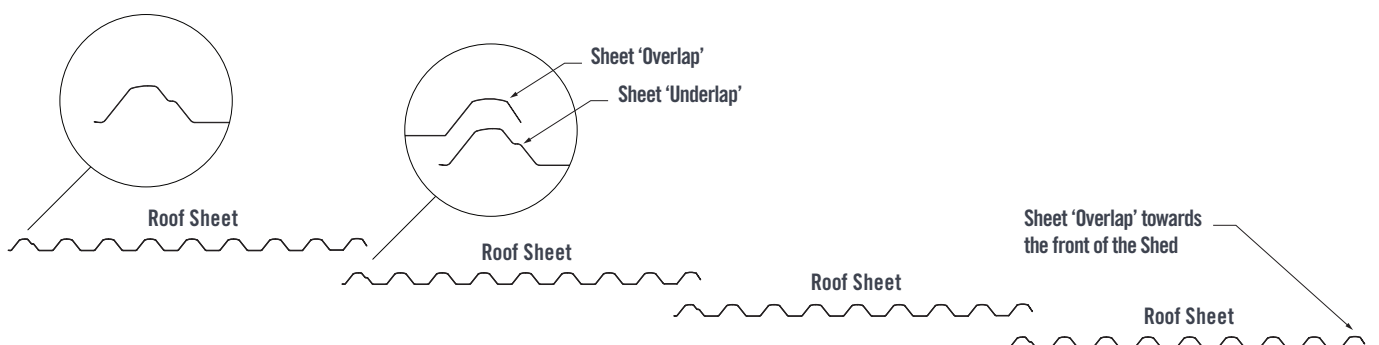
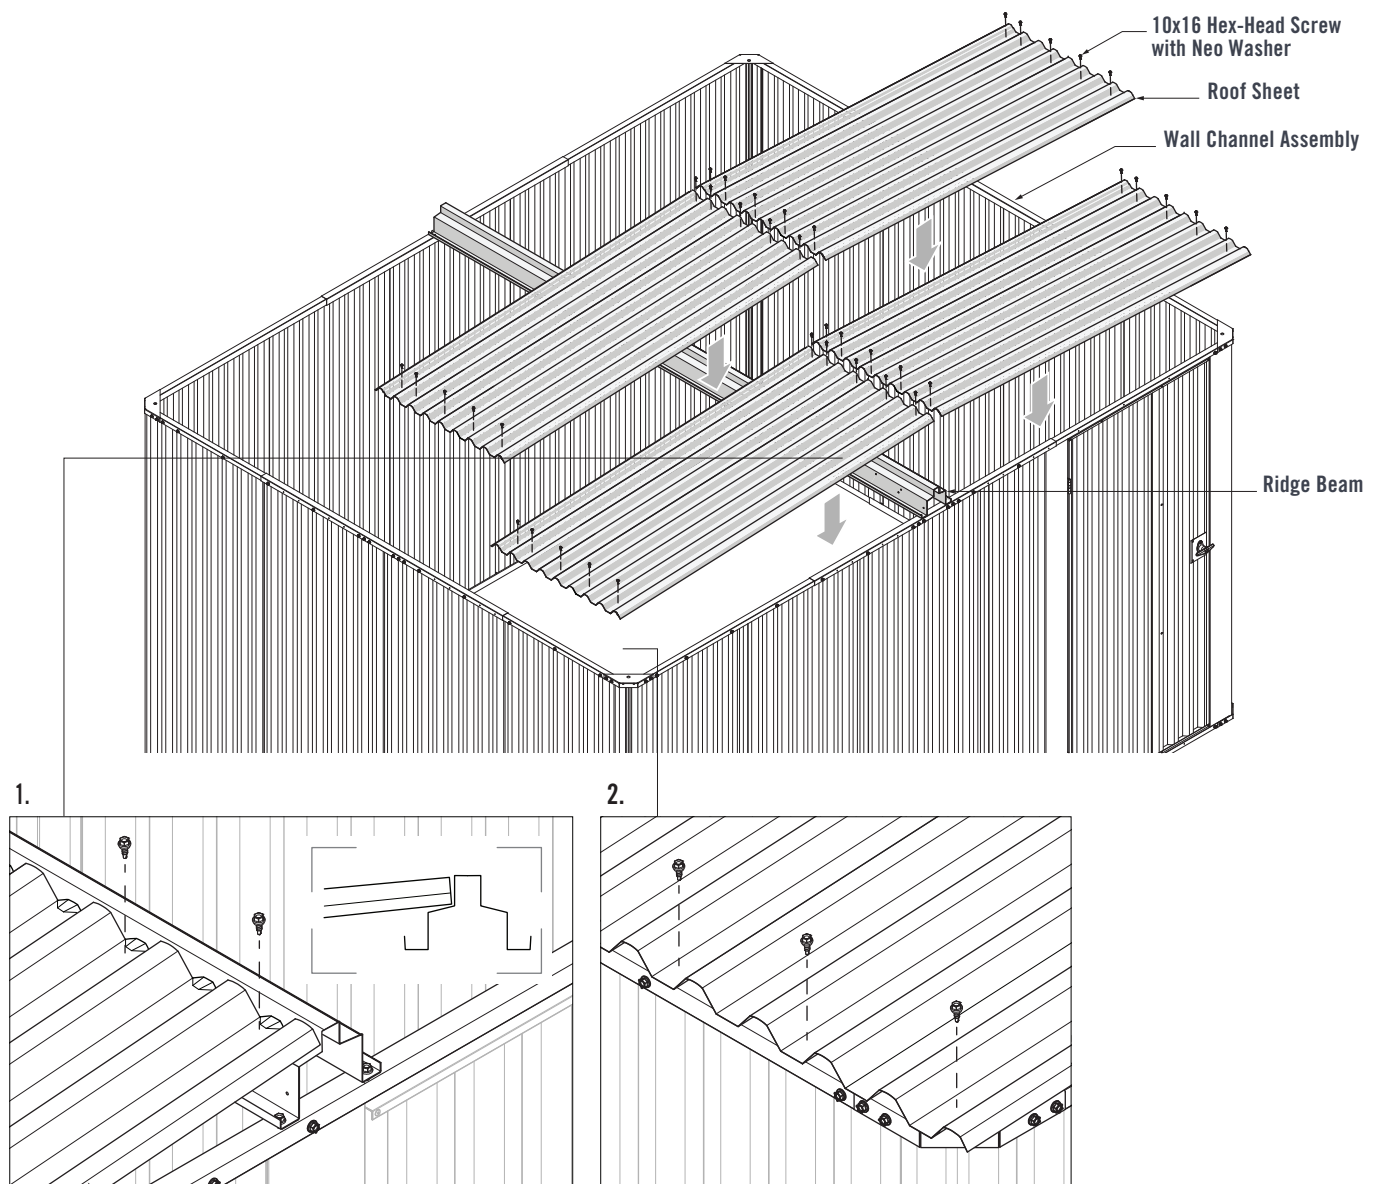
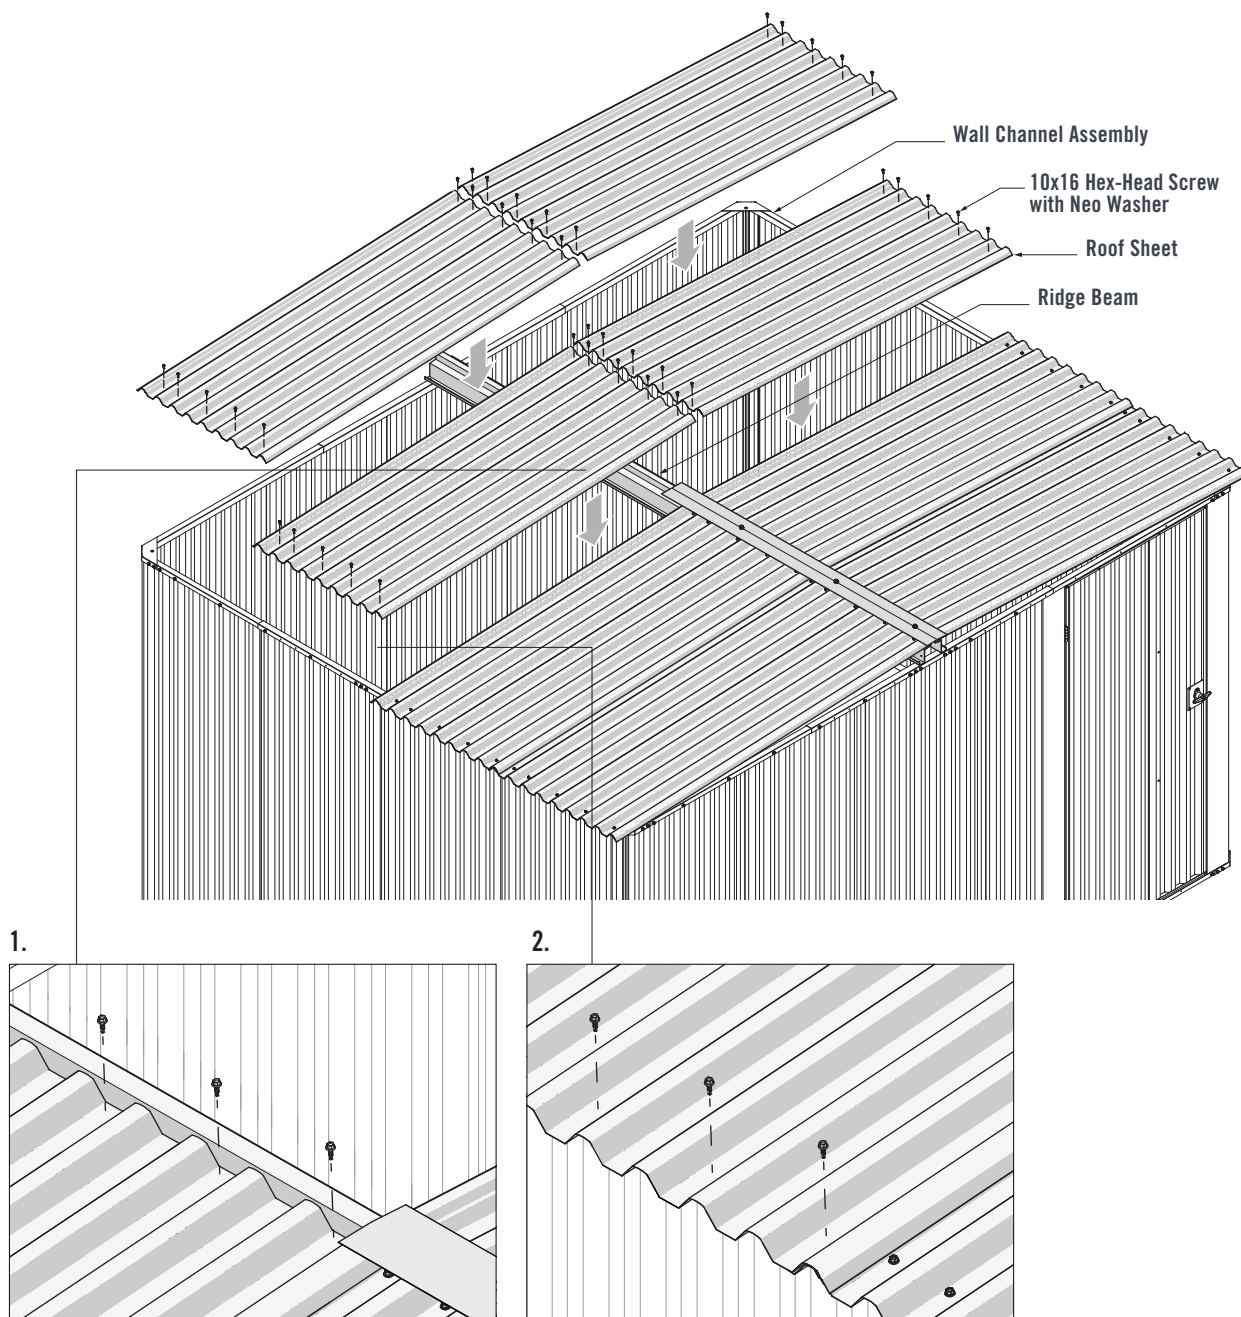

FIGURE 8.2
FIGURE 8.4
FIGURE 8.6
Refer to the sheet layout below when installing Roof Sheets (Figure 8.2).
Refer to Sheet layout in Figure 8.2. Lay a Roof Sheet onto the Ridge Beam and Wall Channel Assembly, ensuring the overlap end of the Roof Sheet is facing the front of the shed (Figure 8.4).
1. Ensure the end of the Roof Sheet is in-line with the end of the Ridge Beam. Fasten five 10x16 Hex-Head Screws with Neo Washers through the pans of the Roof Sheet and into the Ridge Beam (Figure 8.4).
2. Fasten five 10x16 Hex-Head Screws with Neo Washers through the pans of the Roof Sheet and into the Wall Channel Assembly (Figure 8.4).
Refer to Sheet layout in Figure 8.2. Lay the next Roof Sheet onto the Ridge Beam and Wall Channel Assembly, ensuring the overlap end of the Roof Sheet is facing the front of the shed (Figure 8.6).
1. Ensure the Roof Sheet is hard against the step of the Ridge Beam. Fasten five 10x16 Hex-Head Screws with Neo Washers through the pans of the Roof Sheet and into the Ridge Beam (Figure 8.6).
2. Fasten five 10x16 Hex-Head Screws with Neo Washers through the pans of the Roof Sheet and into the Wall Channel Assembly (Figure 8.6).